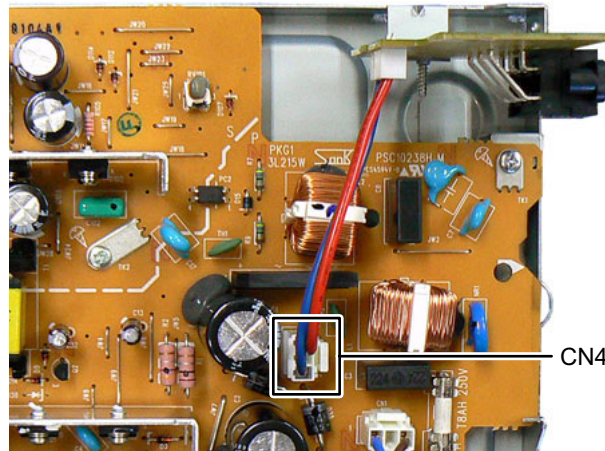

Fig.13
3.1.7 Removing the Voltage selector board (See fig.13, 14)
- (1) Disconnect the connector wire from Voltage selector board connected to connector **CN4** of the Power board. (See Fig.13)